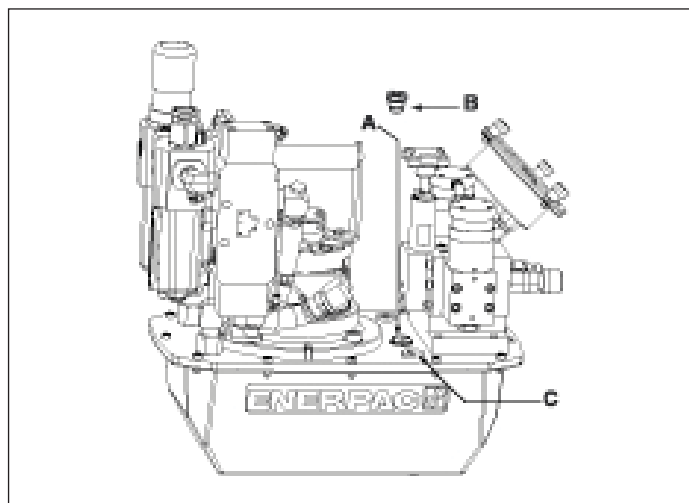
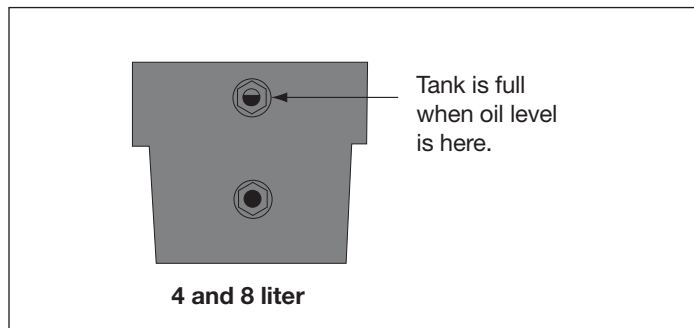

Figure 2, ZA4T Breather Installation
Figure 4
4.1 Reservoir Breather Cap (See Figure 2)
Check the oil level of the pump prior to start-up, if necessary add oil by removing the SAE #10 plug from the cover plate (see Fig. 2). The reservoir is full when the oil level reaches the top of the sight glass. (Fig. 4).